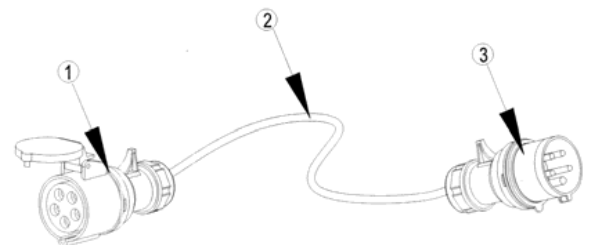

Figure 1
- The user should use the bought power coupler as showed in figure 1. The coupler should match with the appliance and earthing prolong. The coupler should be VDE approved. The length of the power cord can be more than 1.8 m but less than 3 m, if the power cord is too long and heavy, it can cause the fall off the coupler, electric shock risk or tripping over of child.